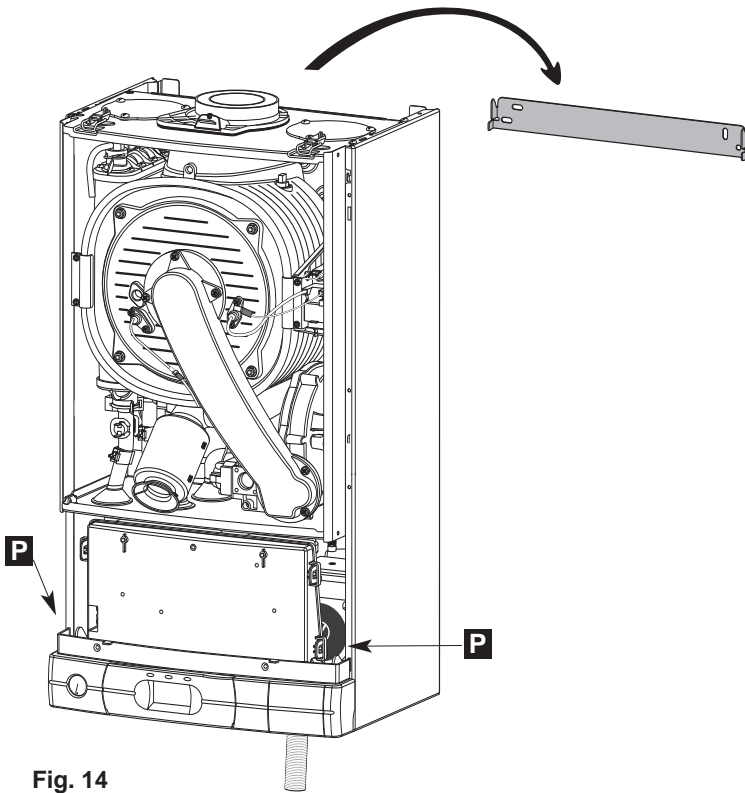

Fig. 14
Place the boiler on the wall on the hanging bracket (Fig. 14).
- Push in the tabs "P" (Fig. 14) on either side of the boiler and pivot the electrical box forward to gain access to the valve connections